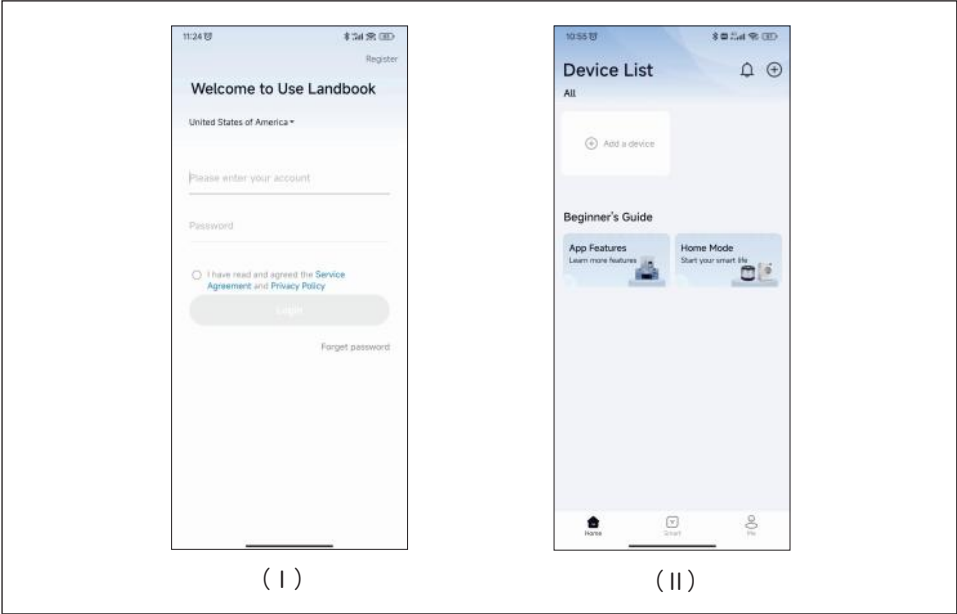

Figure 3.3.3 Register and login
3.3.3 To add your charging pile, please tap the button “Add a device” in figure 3.3.3 (II) , and then tap the button “Detect Nearby Devices” in figure 3.3.4.